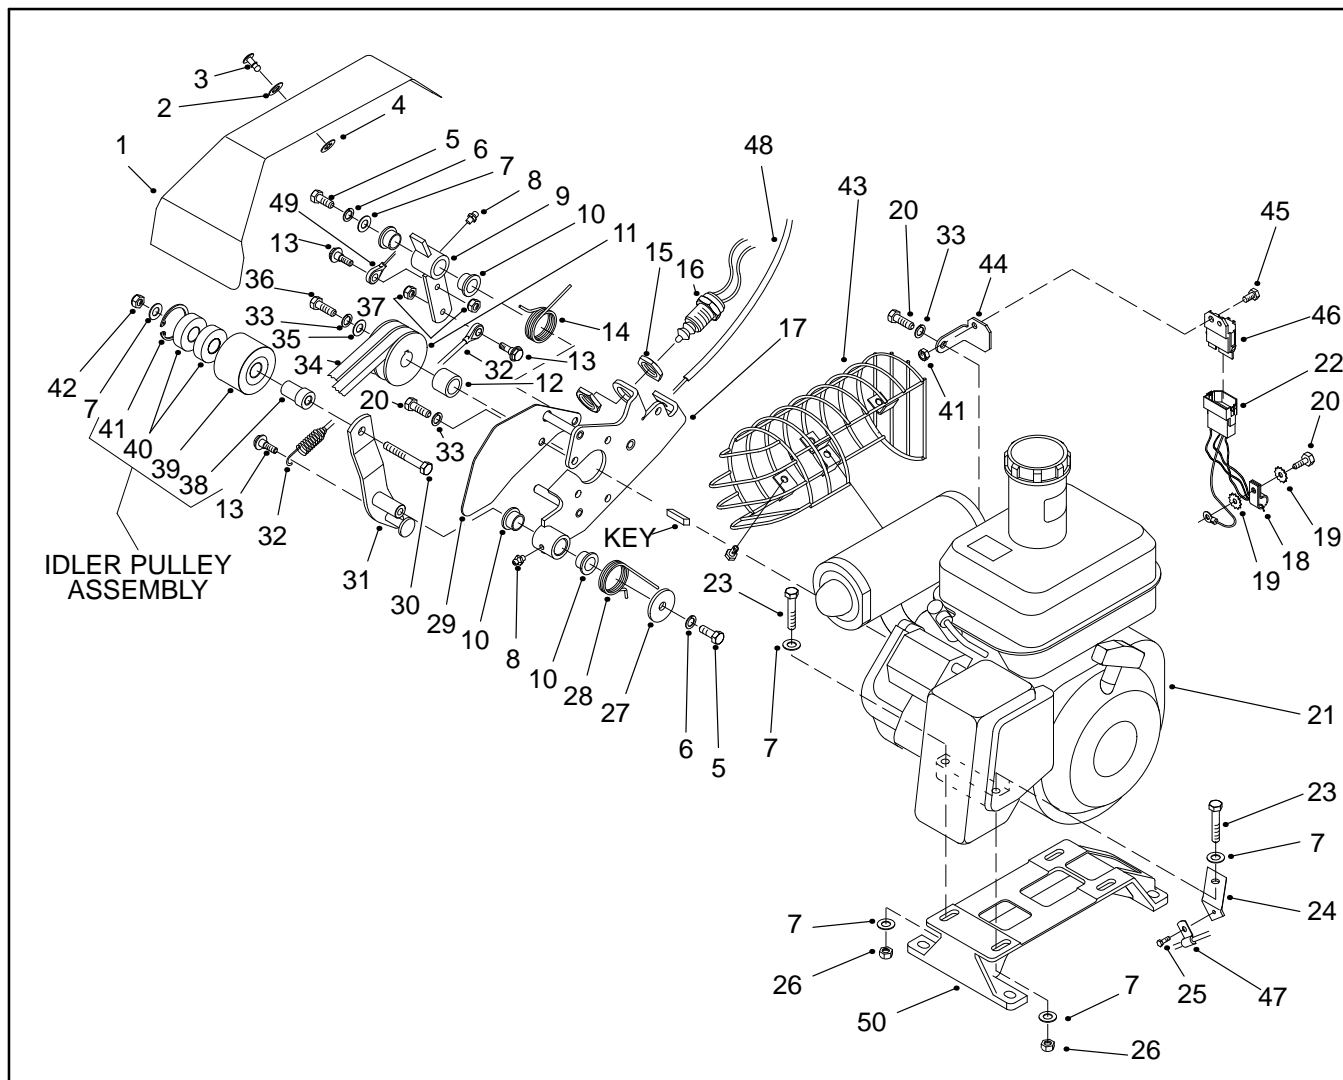
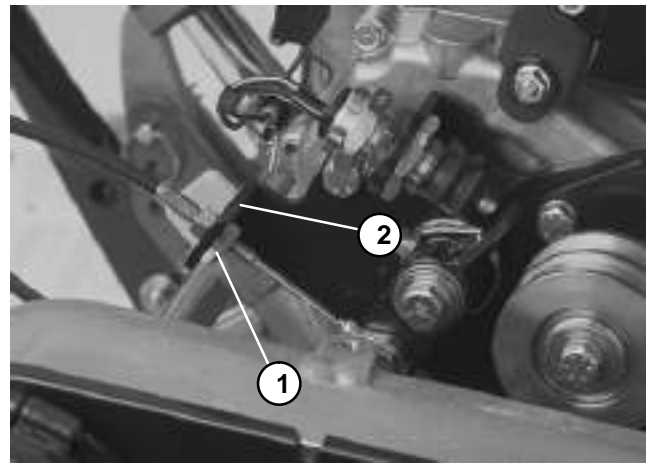
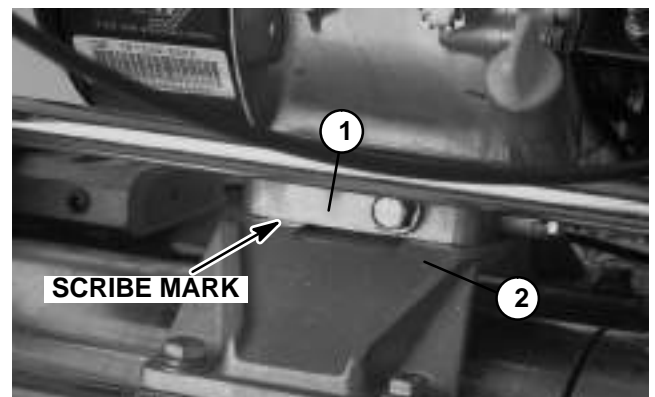
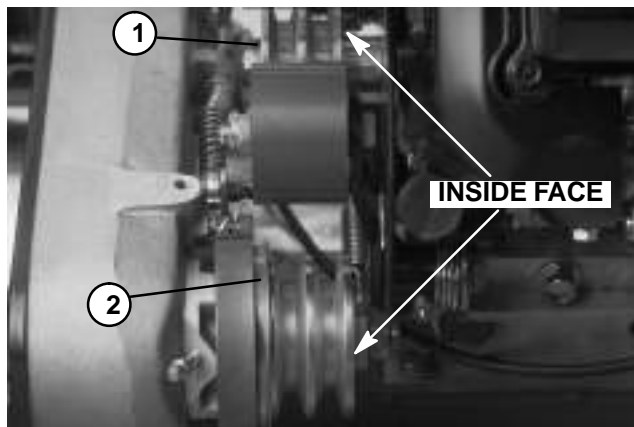

Figure 12
Figure 13
Figure 15
Figure 16
3. To increase V-belt tension, loosen cap screws securing the engine to the engine base (Fig. 12). Move engine backwards in slots. **DO NOT OVER TENSION BELTS.** Tighten cap screws.
2. Remove pulley V-belts (Fig. 12).
A. Make sure clutch is DISENGAGED so the V-belts (34) are slackened. Make sure service brake is DISENGAGED so the input shaft pulley can turn.
B. Open bellcrank cover (1) on the counter shaft housing to get access to the clutch. Remove V-belts one at a time by sliding the belt off the idler pulley (39) first.
3. Remove clutch cable (Fig. 12).
A. Remove shoulder bolt (13) and lock nut (37) from the clutch cable eyelet (49) and lever (9).
B. Loosen lower jam nut holding the clutch cable to the clutch bracket. Remove clutch cable from the clutch bracket and clear of engine (Fig. 13).
B. Remove cap screw (23), flat washers (7), and lock nut (26) from the engine base (49) and throttle cable bracket (24). Pull throttle cable (47) and bracket clear of the engine (Fig. 12).
A. Scribe a mark on the engine base at the bottom of the engine for reassembly purposes (Fig. 15).
B. Disconnect both black\white wires on the clutch switch (16) from both brown wires.
C. Remove remaining cap screws (23), flat washers (7), and lock nuts (26) from the engine base (49). Remove the engine from the cutting unit.
6. The bellcrank assembly can be removed from the engine with minimum disassembly (Fig. 12).
A. Remove cap screw (36), lock washer (33), and washer (35) from the engine shaft. Remove pulley (11), key, and spacer (12) from the engine shaft.
B. Remove five cap screws (20) and lock washers (33) securing the belt shield (29) and clutch bracket (17) to the engine block.
3. Make sure bellcrank cover (1) is open on the counter shaft housing to get access to the clutch (Fig. 12).
4. If the bellcrank assembly was removed from the engine (21), reassembly as follows (Fig. 12):
A. Position clutch bracket (17) to the engine with the long arm of the clutch torsion spring (28) under the engine.
B. Position belt shield (29) to the engine. Secure belt shield and clutch bracket to the engine with five cap screws (20) and lock washers (33).
D. Place engine shaft spacer (12) on the engine shaft and reinstall key. Apply never seize to the shaft.
E. Place input drive pulley (11) on the engine shaft with the counter bore out. Secure pulley to the shaft with cap screw (36), lock washer (33), and washer (35).
5. Reinstall engine (21) to engine base (50) (Fig. 12).
B. Install four cap screws (23) and flat washers (7) through the engine and engine base. Install throttle cable bracket (24) under the left front cap screw. Put flat washer and lock nut (26) on each cap screw and hand tighten.
C. Use scribe mark on engine block to align engine. The distance between engine output shaft center and power shaft center should be from 5.11 to 5.23 inches (130 to 133 mm). Inside pulley faces should be flush to each other to within 0.030 inch (0.762 mm) maximum (Fig. 16).
E. Reconnect both black/white wires on the clutch switch (16) to both brown wires.
A. Reinstall clutch cable into notch of clutch bracket and clear of engine. Tighten lower jam nut holding clutch cable to clutch bracket (Fig. 13).
B. Place shoulder bolt (13) through the clutch cable eyelet (49) and lever (9). Secure shoulder bolt with lock nut (37) (Fig. 12).
8. Reinstall pulley V-belts (Fig. 12).
B. Install V-belts (34) one at a time by placing a belt into the inner groove of the input drive pulley (11) first. Place the second belt into the outer groove of the input drive pulley and then the outer groove of the input shaft pulley. Place the loose end of the first belt into the inner groove of the input drive pulley.